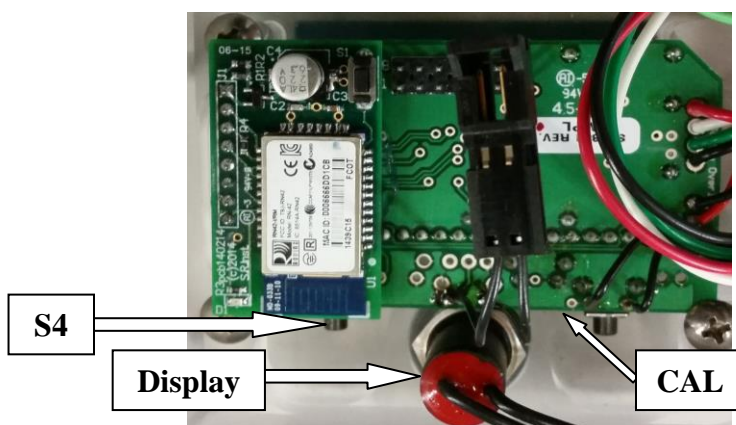

Figure 5: Calibration Buttons
**STEP 4:** Press the calibration button (Figure 5). The display will read “CAL”.
**STEP 5:** Press button “S4” (Figure 5) to scroll through menu options until “FULL” is displayed. Press the **DISPLAY** button.